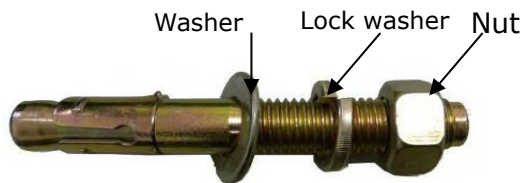

Fig. 35
1.1 Prepare the anchor bolts (See Fig. 35).